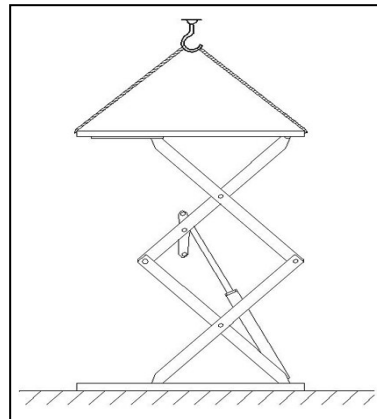

Fig. 15
- Use fork car or other lifting equipments to lift the platform (Fig. 15) and make sure that the safety equipment of machine is both turned on and locked.